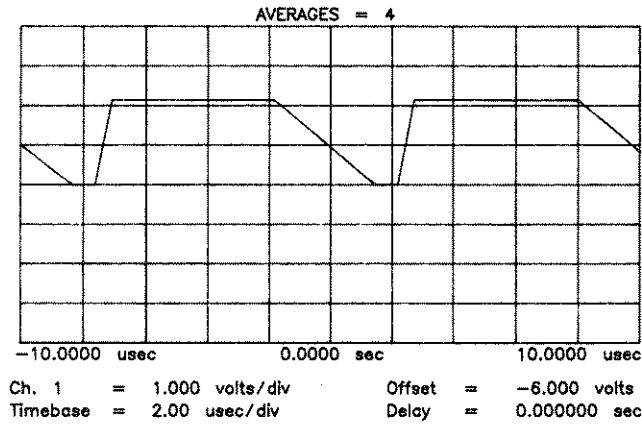

Figure 5-14b. Sample of Oscilloscope Display
- 4. Adjust A3R620 (PRETUNE) for a voltage of -6.0 volts ± 0.5 volts at the bottom of the integrator waveform (the oscilloscope Delta V and marker functions can be used to set a reference line at $-6V$ as a calibration aid). See Figure 5-14b.